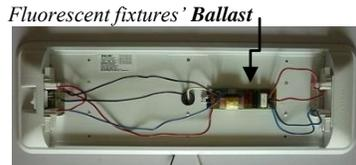

Figure 3 - Fluorescent Tube Fixture with Ballast Cover Removed
3. With the lens & ballast cover removed, locate the Fluorescent fixtures' **Ballast**, *Figure 3*.